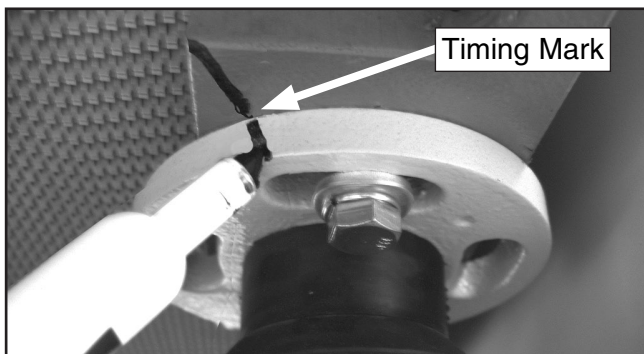

Figure 37. Marking lead screw for reassembly.
6. Using a permanent marker, mark all four lead screw flange positions (**Figure 37**), and remove all hex bolts from the flanges.